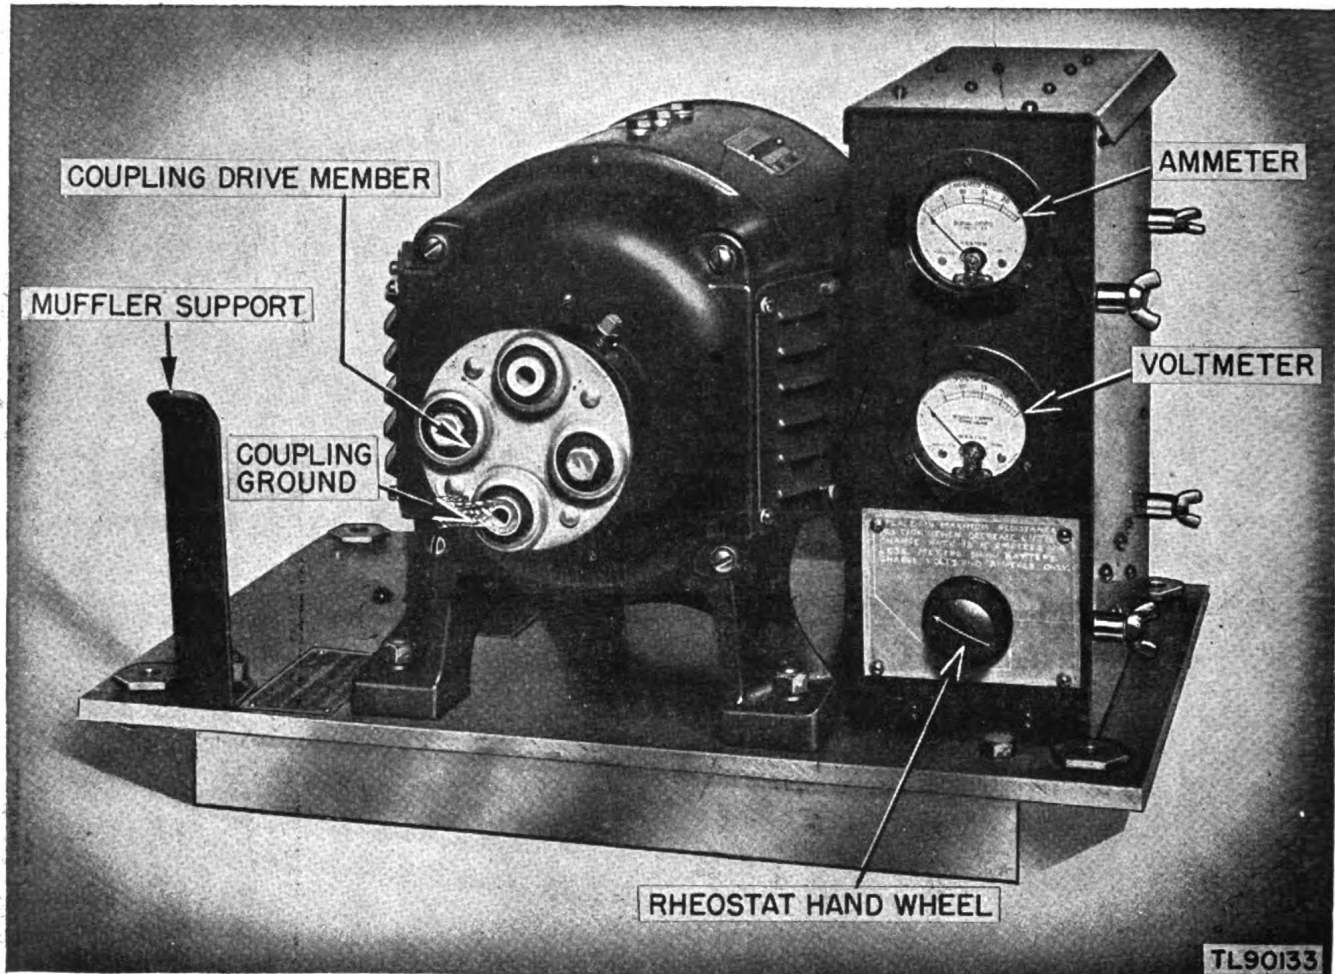

Figure 9. Generator GN-39-C and control box.
a. GENERAL. The control box (figs. 9, 10, 11, and 12) is of sheet-metal construction and is attached to one side of the generator. The covers are readily removable permitting access to the control devices. Gaskets and a drip-proof top make the box a weatherproof housing for the controls. The shape of the box, the position of controls, and the electrical components of the control circuits differ with the different models of the power unit.
b. CONTROL BOX ON POWER UNIT PE-49-C (fig. 9). The control box on Power Unit PE-49-C has both top and front covers removable for access to interior parts. It contains the voltage regulator, a rheostat control knob, regulator resistor, reverse-current cut-out, switching relay, filters, capacitors, an ammeter, a voltmeter, fuses for both high- and low-voltage circuits, and a field switch. Two sockets for